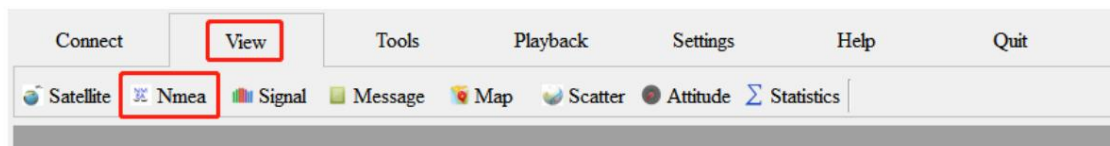

Figure 2-14 NMEA view selection
After the iNavTool evaluation software is connected to the receiver normally, the receiver data can be displayed in the NMEA view (as shown in Figure 2-13 (1)). Users can click the "Nmea" option in the "View" option bar of the menu bar to display this view in the software view area (as shown in Figure 2-14). The NMEA view will filter the information output by the serial port and only display the protocol output of Nmea and ICOE; users can choose to send content as ASCII code or hexadecimal information by clicking "ascii" in the lower right corner.